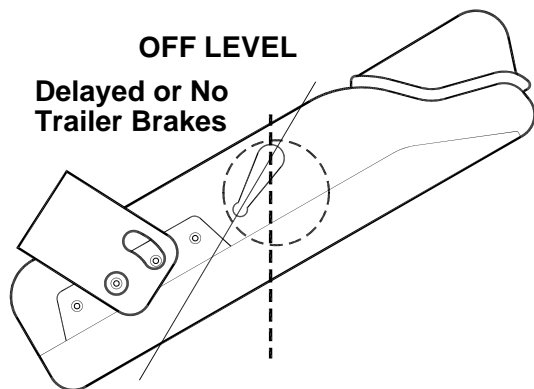

Figure 5 – delayed or no trailer brakes
1. Pendulum leveling arm adjusted too far to the rear of the controller (Figure 5):
- A. With the controller properly adjusted, the red indicator light may flash with the 4-way flasher lights, but will not operate the trailer brakes. (Figure 5)